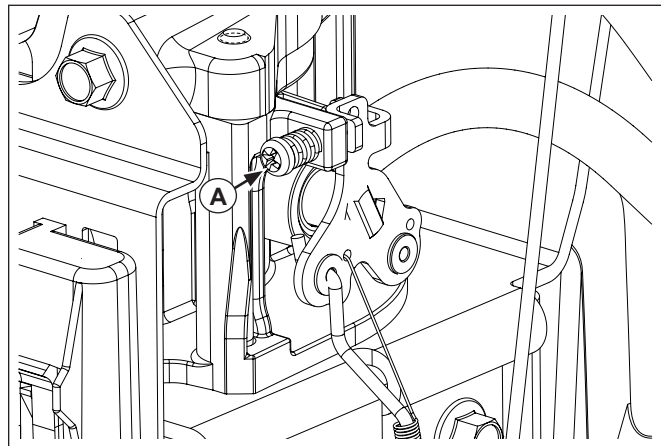

Figure 4. Reset Idle Speed.
- Set the idle speed to 1500 RPM by adjusting the idle speed screw (A) on the throttle body. See Figure 4.